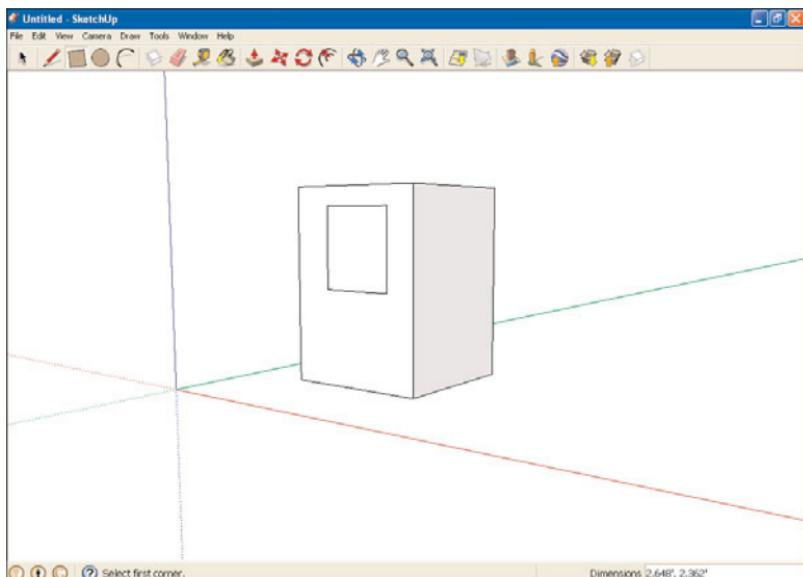
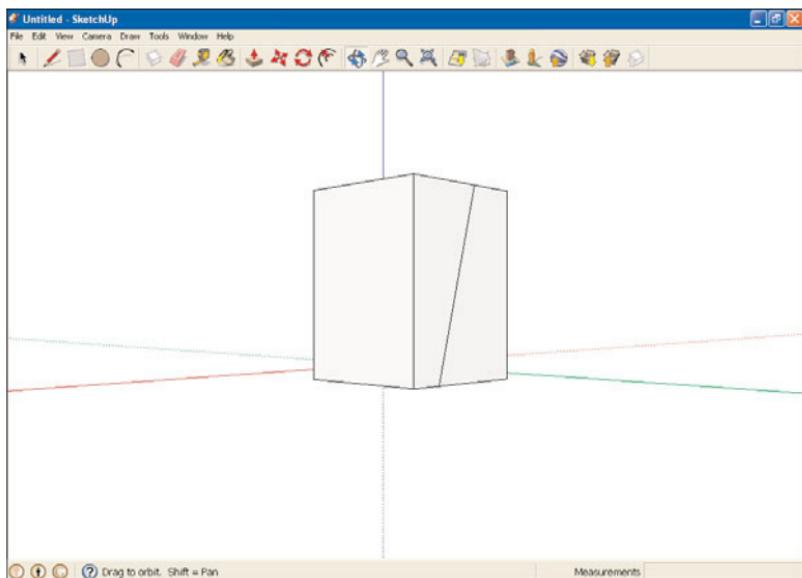

FIGURE 5.12 A 3D block with rectangle.
FIGURE 5.13 A 3D block from the back, showing a blocking edge.
You can use the Eraser tool to erase edges, and that can help when you're going 3D. For example, take a look at the block in Figure 5.12.
3. Search for obstructing edges—SketchUp won’t push openings through edges. In the case of the object in Figure 5.12, it turns out that there’s an edge drawn across the back of the object, as you can see in Figure 5.13. This edge will stop SketchUp from pushing an opening through the object.